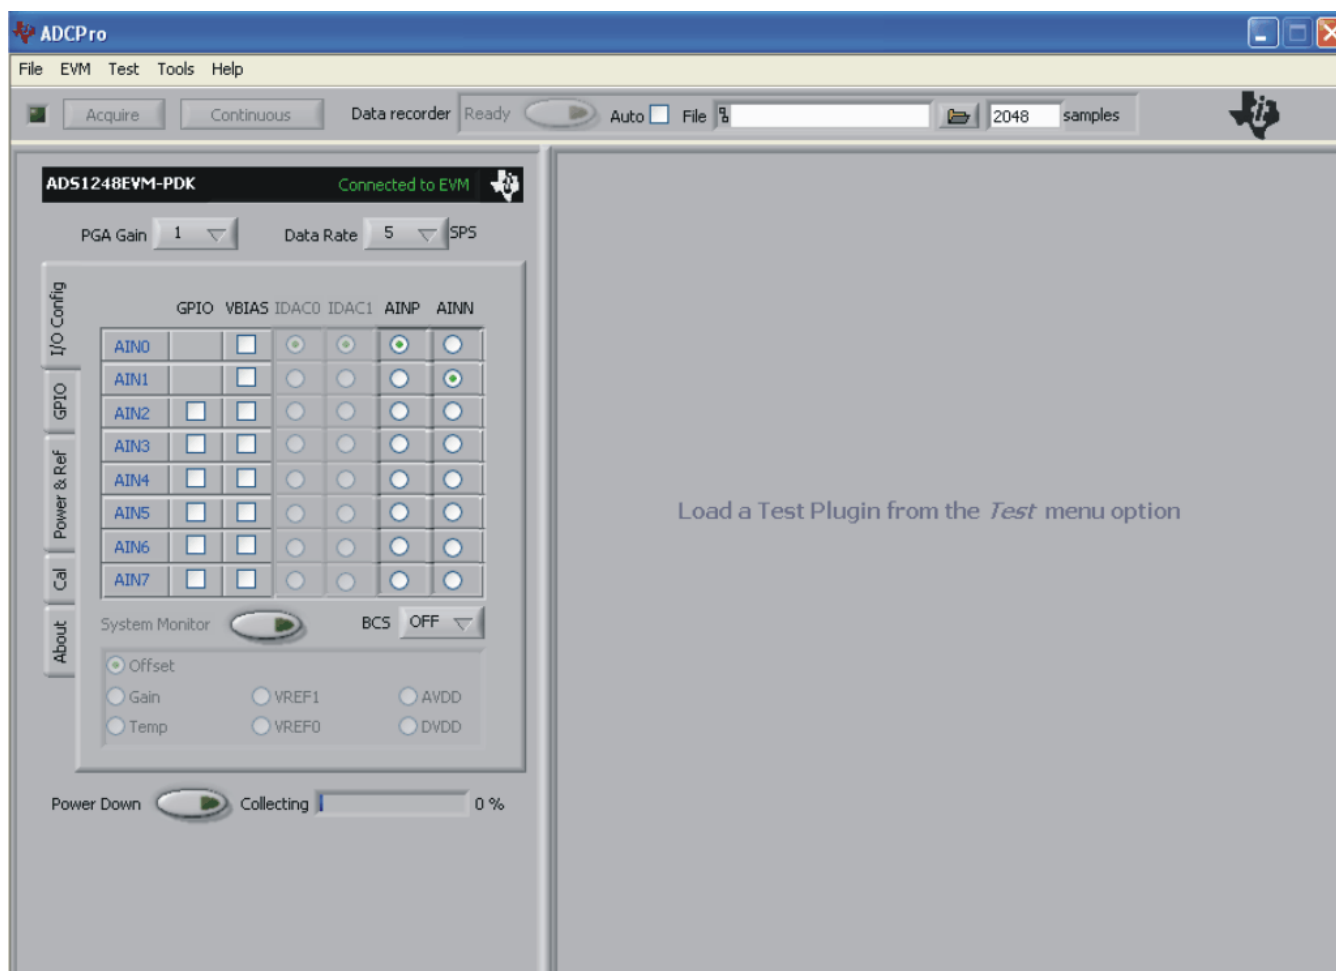

Figure 10. ADS1248EVM-PDK Plug-In Display Window
- Step 2. Select ADS1248EVM from the EVM drop-down menu. The ADS1248EVM-PDK plug-in appears in the left pane, as shown in Figure 10.